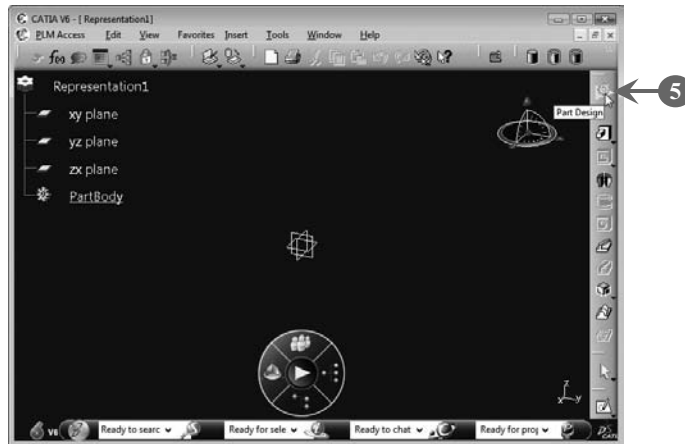

FIGURE 1.31
The **Part Design** workbench opens with the **Representation1** representation (**Figure 1.31**).
5. Move the mouse pointer over the button that displays the name of the current workbench, on the **Workbenches** toolbar, to know which workbench you are working with, as shown in **Figure 1.31**: